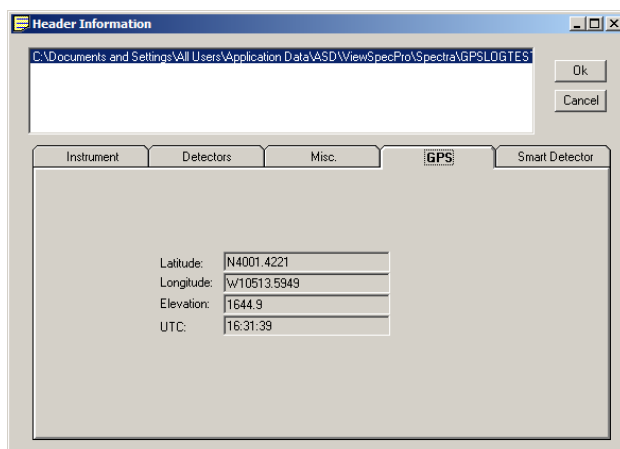

Figure 3-71: Header Information
Step 5 To view GPS data, click on the GPS tab (Figure 3-71).